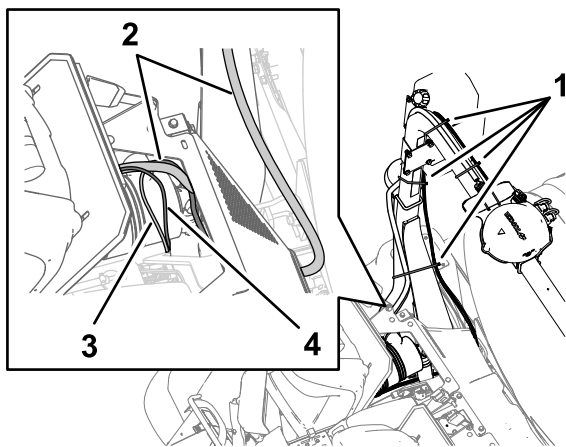

Figure 142
- Route the 302 cm (119 inches) data-harness branch of the electrical harness (Figure 142) with the 4-pin connector labeled CAN 2 ASC 10 BUS down to the area where the front and rear wire harness for the machine connect; refer to Figure 92 in Connecting the Front and Rear Wire Harnesses (page 42).
- Route the 34 cm (13-1/2 inches) data-harness branch (Figure 142) with the 4-pin connector labeled CAN 2 ASC 10 BUS down to the area where the front and rear wire harness for the machine connect; refer to Figure 92 in Connecting the Front and Rear Wire Harnesses (page 42).